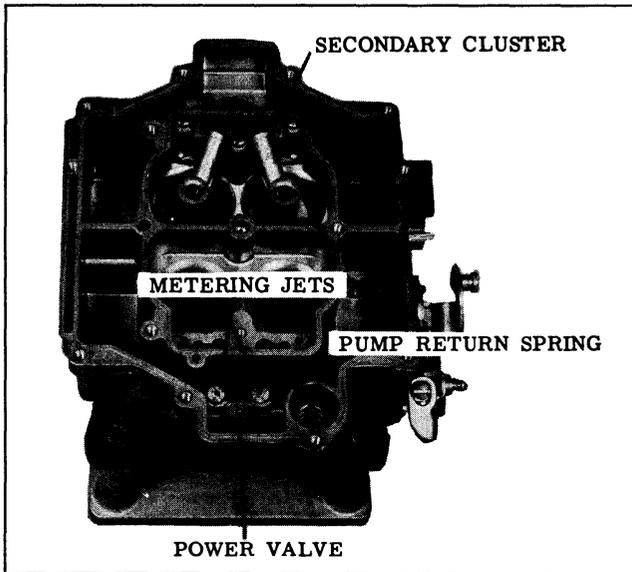

Fig. 8-96 Primary Metering Jets
3. Remove both metering jets from the primary (pump) side of the carburetor body. (See Fig. 8-96)